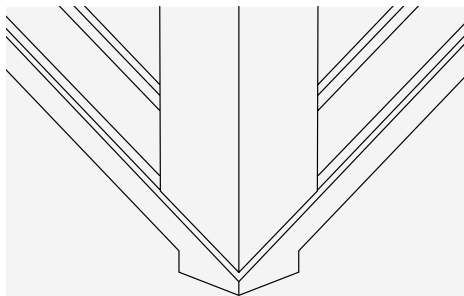

Fig. 4 – Lining the valley
- 4 A single strip of roofing underlay, at least the full width (500mm) of the valley boards, should be laid up the centre and directly on top of the boards allowing for an overlap beyond the fascia line where appropriate and which may be trimmed later (Fig. 4, page 184).